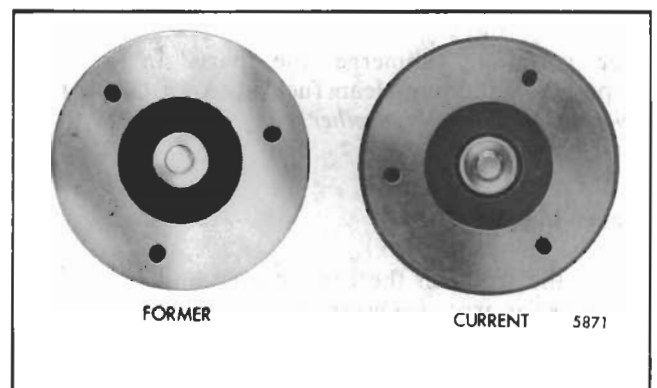

Fig. 34 - Spray Tip Sealing Surface Identification
**NOTE:** The sealing surface of current spray tips is precision lapped by a new process which leaves the surface with a dull satin-like finish; the lapped surface on former spray tips was bright and shiny (Fig. 34). It is not recommended to lap the surface of a *new* current spray tip.